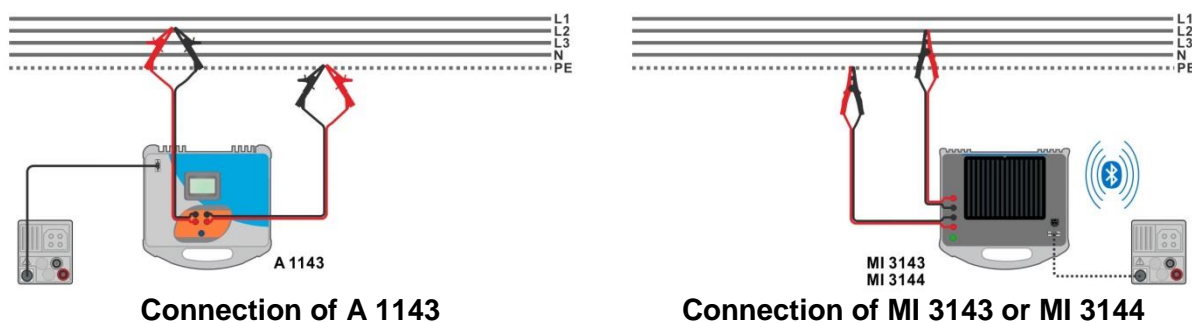

Figure 7.47: High precision Loop impedance measurement
- Connect MI 3152(H) instrument with A 1143, MI 3143 or MI 3144 Euro Z adapter / instrument via serial RS232 or pair them using Bluetooth communication. See chapter **4.6.5.1 Configuration of measuring adapters**.
- Check Bluetooth communication active sign if MI 3143 or MI 3144 Euro Z instrument is connected to MI 3152(H) instrument via Bluetooth communication.
- Connect test leads to the object under test, see **Figure 7.47** and **Figure 7.48**.